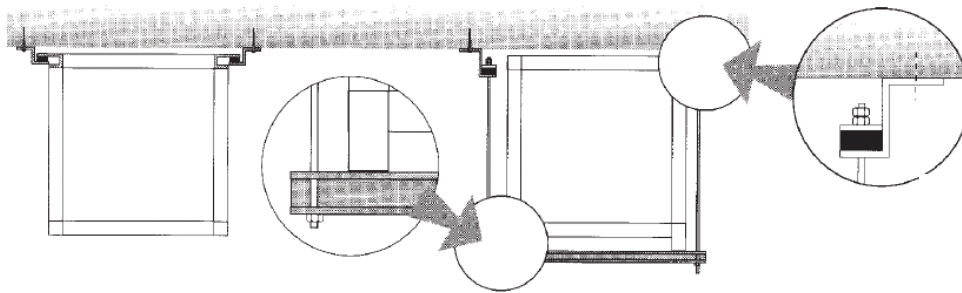

Figure 34: Suspension of ceiling AHUs
If floor AHUs shall be mounted on the ceiling, then the device must be fixed with the base frame on an encompassing suspension see **Figure 34** right. The handling of the structure-borne noise insulation is analogously as for floor AHUs.
- To avoid transmission of structure-borne noise is recommended to use sound-absorbing material between suspension and AHU. A possible solution is shown in **Figure 34**.